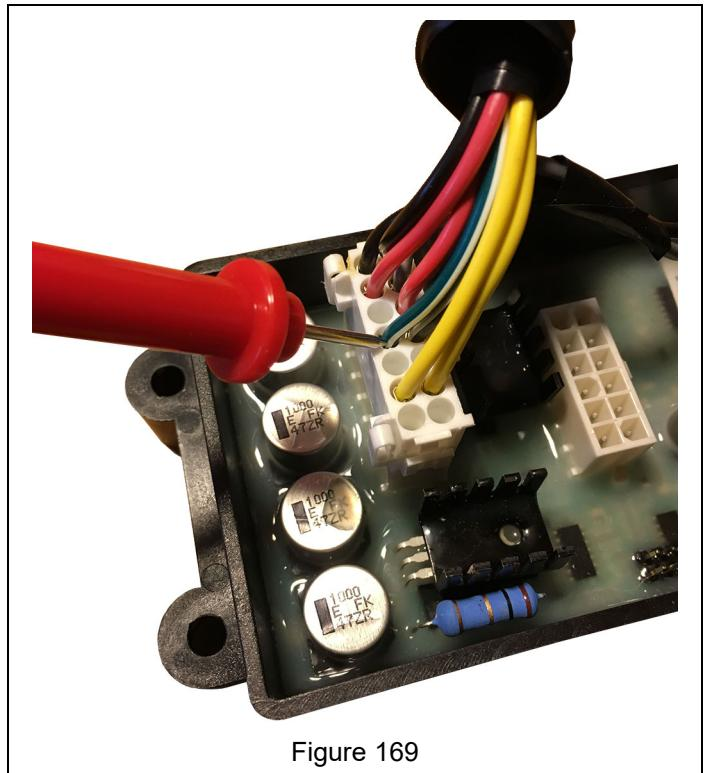

Figure 169
3. With a multi-meter, measure the V DC of the green / white wire. See Figure 169.